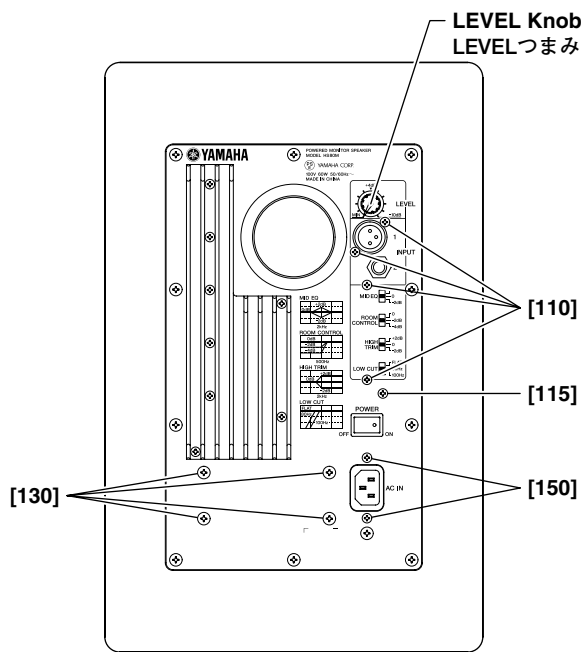

Fig. 3 (図3)
- 5-2 Remove the four (4) screws marked [110] and the screw marked [115]. (Fig. 3)
- 5-3 Remove the LEVEL knob, the hexagonal nut [E] and washer [D]. (Fig. 3, Photo. 5)
- 5-5 Remove the three (3) screws marked [G] and remove the case PWB. (Photo. 3)
- 5-2 [110]のネジ4本と[115]のネジ1本を外します。(図3)
- 5-3 LEVELつまみと[E]の六角ナットおよび[D]のワッシャを外します。(図3、写真5)
- 6-2 Remove the four (4) screws marked [130]. The TRANS circuit board with the power transformer can then be removed. (Fig. 3)
- 7-2 Remove the two (2) screws marked [150]. (Fig. 3)
- 6-2 [130]のネジを4本外し、TRANSシート(電源トランス付)を外します。(図3)
- 7-2 [150]のネジを2本外します。(図3)